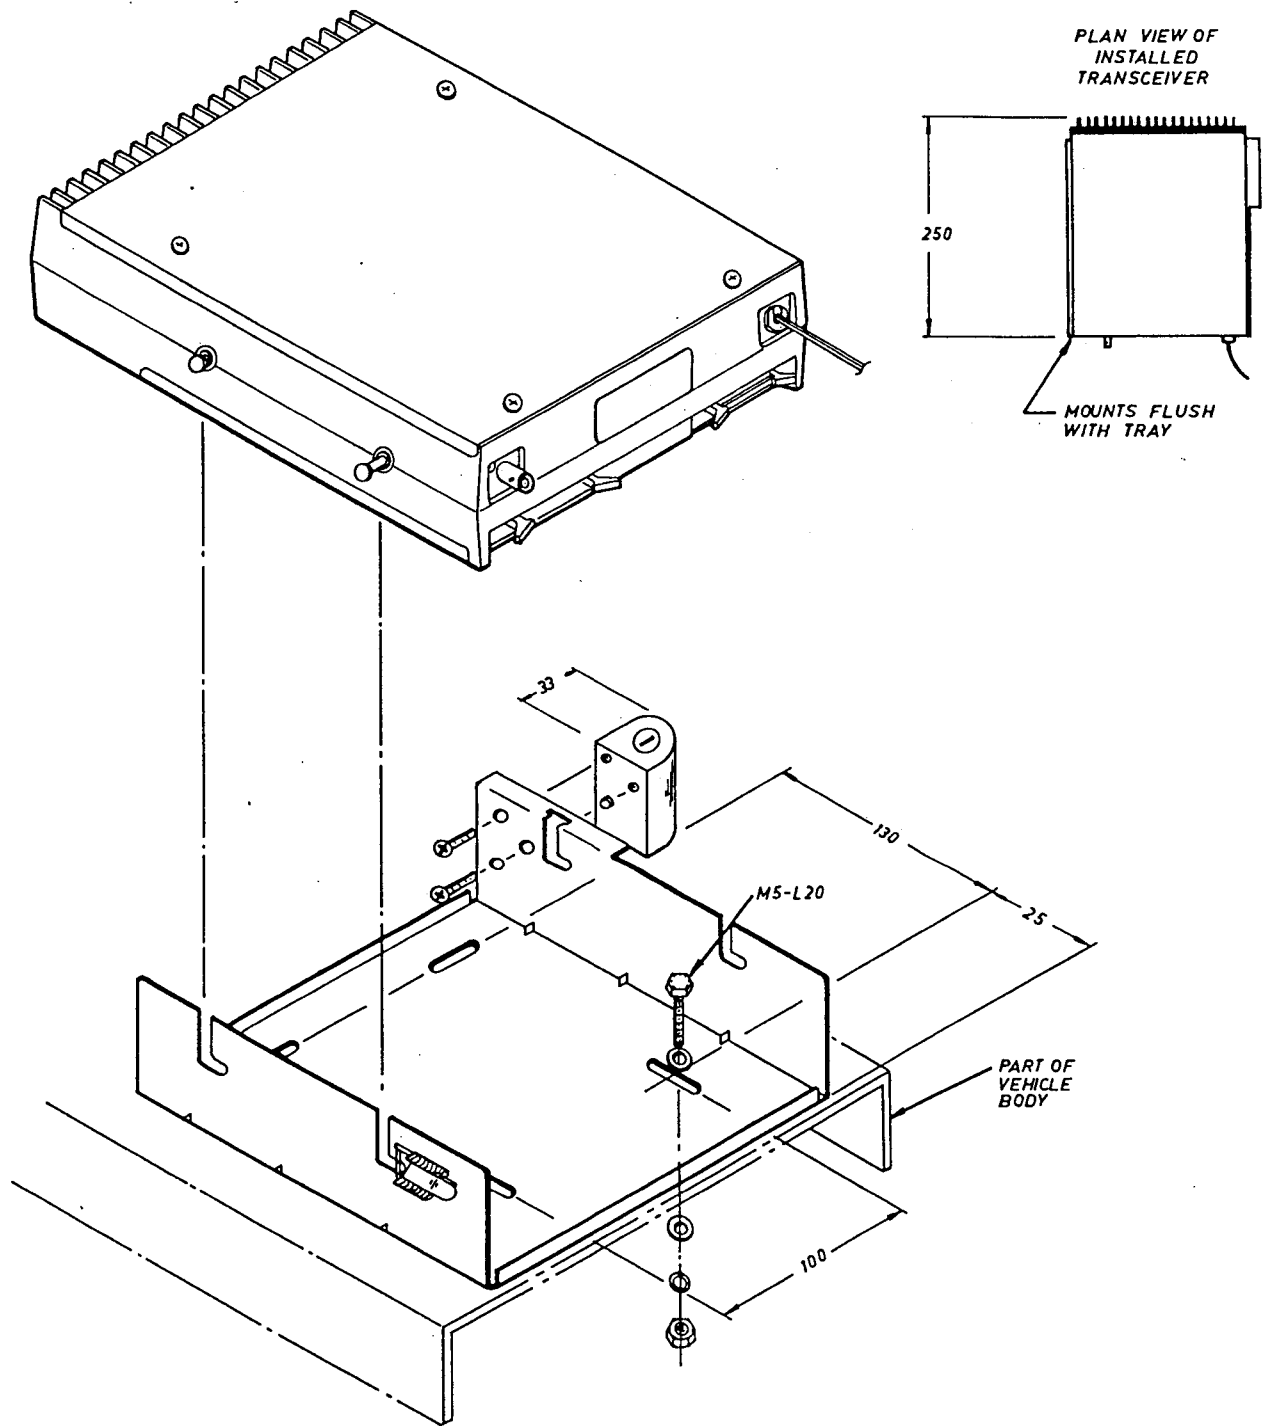

Fig. C-3 Transceiver Installation
1. Drill four 6mm holes (1/4 in. drill) in the vehicle body according to the format shown in Fig. C-3 (page C.2 - 2).